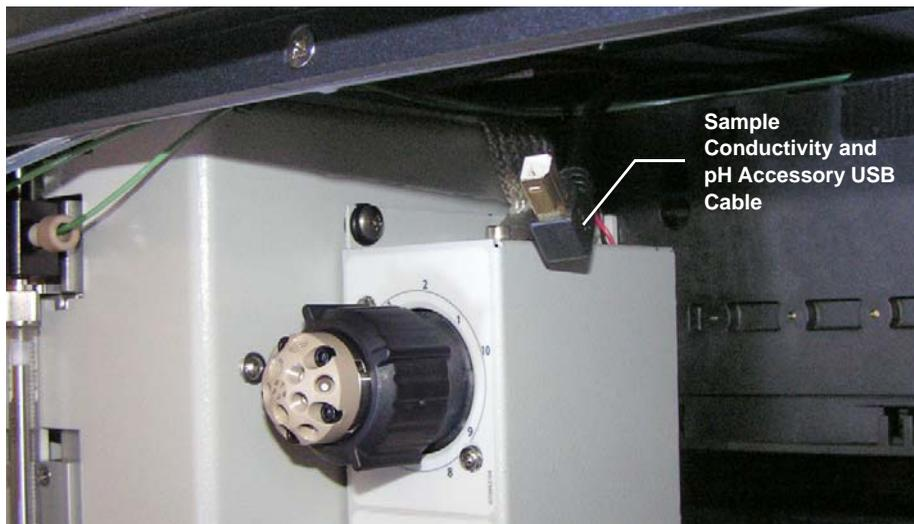

Figure 4. Left Side of Dionex AS-AP Compartment
4. Locate the USB cable for the Sample Conductivity and pH Accessory inside the Dionex AS-AP in the upper-left back corner (see Figure 4).